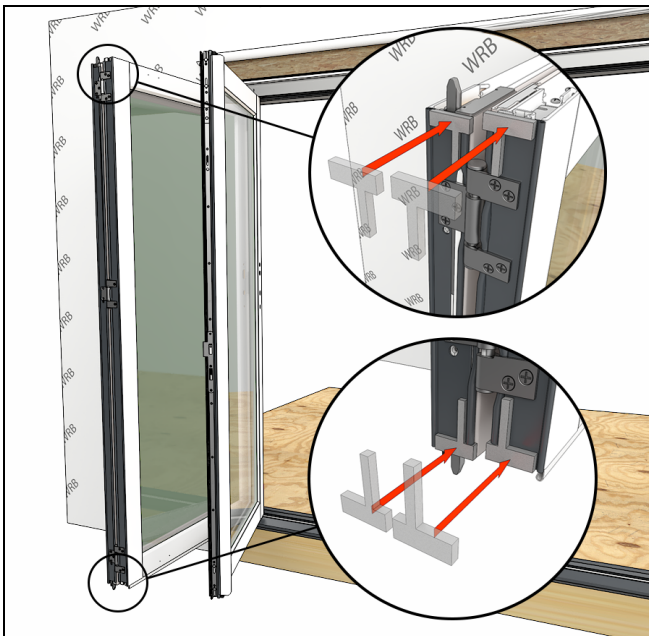
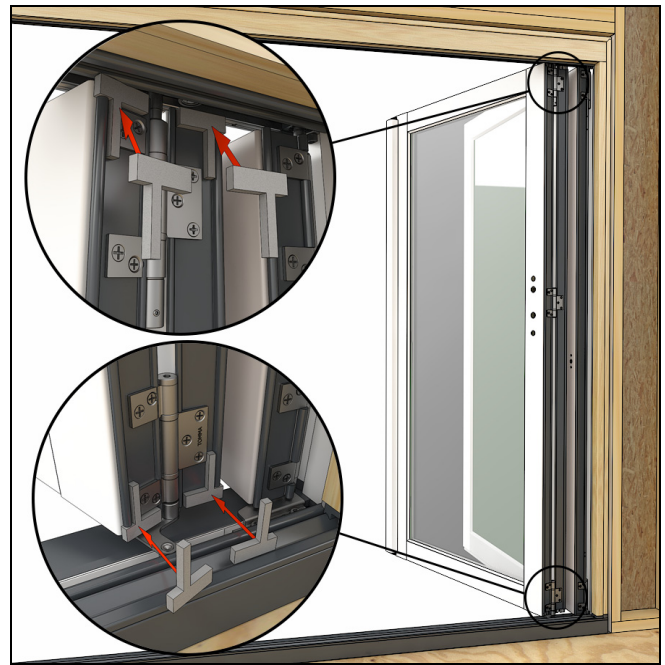
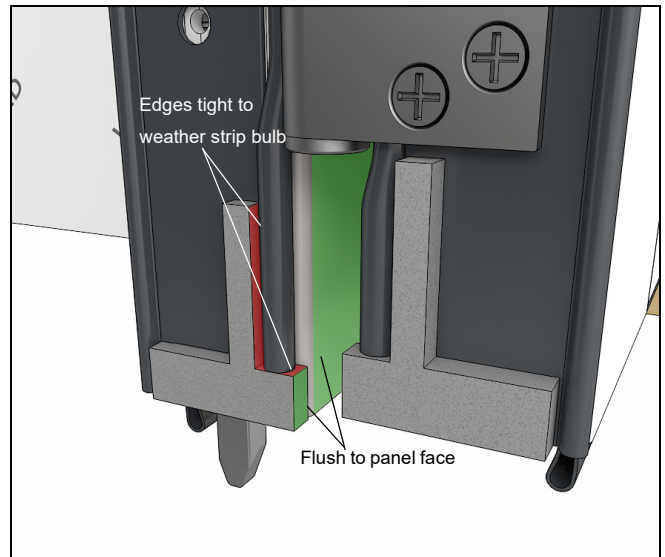

Figure 59
Figure 60
Figure 61
5. Apply the T-gaskets with edges tight to weather strip and flush to panel face as shown in Figure 59, Figure 60 and Figure 61.